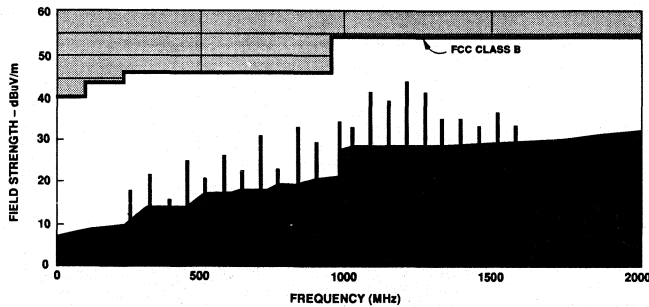

Figure 13. HFBR-5102, Typical Electric Field Strength at 3 m, 125 MBd.
- The transceiver under test was supplied with a 62.5 MHz square wave (125 MBd) optical signal from outside a semi-anechoic chamber to the receiver section located inside this chamber. An input optical power level of -20 dBm average was applied. Electrical output signals from the receiver section were connected directly to the electrical input of the transmitter section of the test transceiver. In turn, the transmitter section returned the optical data to a receiver outside the test chamber to be compared for data integrity. The noise floor of Figure 13 is dictated by the measuring equipment. From DC to one GHz, one set of test instrumentation monitored the emissions. Above 1 GHz, a different instrumentation system measured emissions up to 2 GHz. The difference in the bandwidths of the two systems causes the discontinuity in the noise floor at 1 GHz.
- Tested at 125 Mb/s and with a data-pattern PRBS 2⁷-1. The sampling clock is adjusted to minimum (0.0 ns) delay and incremented in 0.5 ns steps up to a total of 7.5 ns delay. At each clock delay increment, the BER is checked. The total number of delay positions (N) yielding a BER $< 1E-5$ is recorded. The Receiver Saturation level is the highest input optical power at which $N \geq 9$.
Figure 13 shows typical radiated emissions from a sample of HFBR-5102 transceivers. The units meet FCC Class B far-field emission limits at three metres with the transceiver mounted on a printed circuit board in an open, unshielded environment within an approved semi-anechoic chamber. See note 31 for details on the test method.